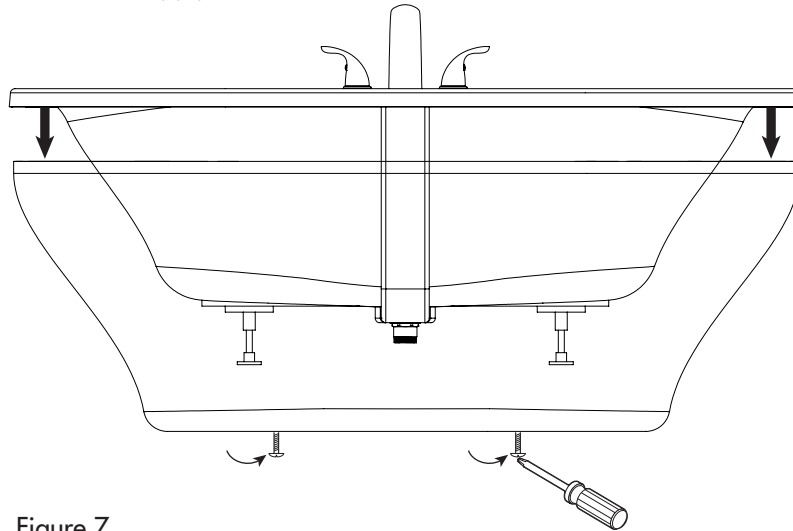

Figure 7
4. Re-assemble the top of the tub with the skirt, and secure the screws at the bottom (see Figure 7). Connect the faucet hose with hot and cold water supply and check for leaks.